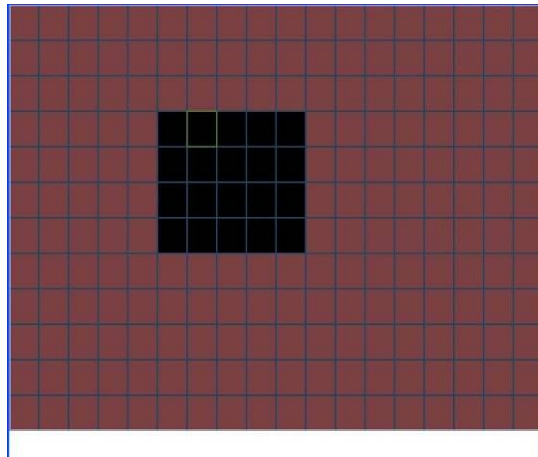

Figure 4-21
- **Region:** Click select button, the interface is shown as in Figure 4-21. Here you can set motion detection zone. There are 396(PAL)/330(NTSC) small zones. The green zone is current cursor position. Grey zone is the motion detection zone. Black zone is the disarmed zone. You can click Fn button to switch between the arm mode and disarm mode. In arm mode, you can click the direction buttons to move the green rectangle to set the motion detection zone. After you completed the setup, please click ENTER button to exit current setup. Do remember click save button to save current setup. If you click ESC button to exit the region setup interface system will not save your zone setup.
In Figure 4-21, you can left click mouse and then drag it to set a region for motion detection.